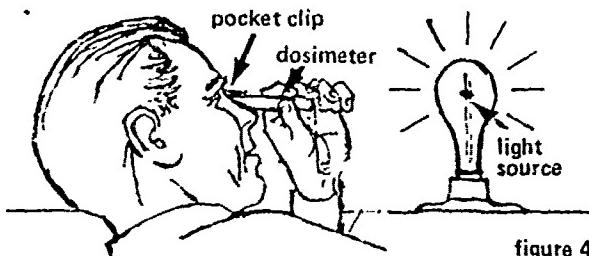
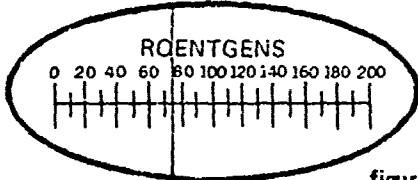

figure 4
figure 7
1. Point the dosimeter at a source of light (figure 4) —even a match, a candle or a flashlight will do—and observe the position of the hairline indicator. If the line is visible and positioned less than mid-scale, record reading. If the line is at or above mid-scale or not visible, the dosimeter must be rezeroed. To rezero, a dosimeter charger is required.
6. To read dosimeter at any time -- point at source of light and observe setting by looking through dosimeter (figure 4). Reading of figure 7 is 75 Roentgens. Your accumulated exposure in Roentgens is this number less the initial reading you recorded.